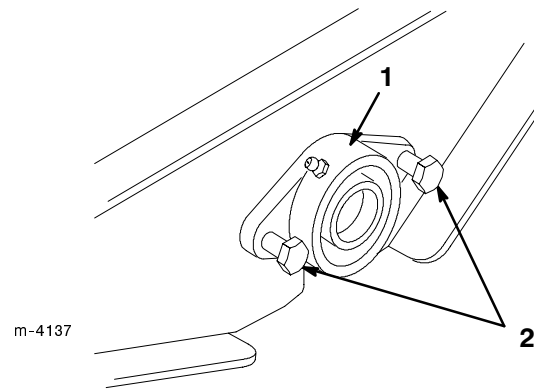

Figure 20
4. Loosen the two bolts securing the axle locking collar. (Fig. 20).